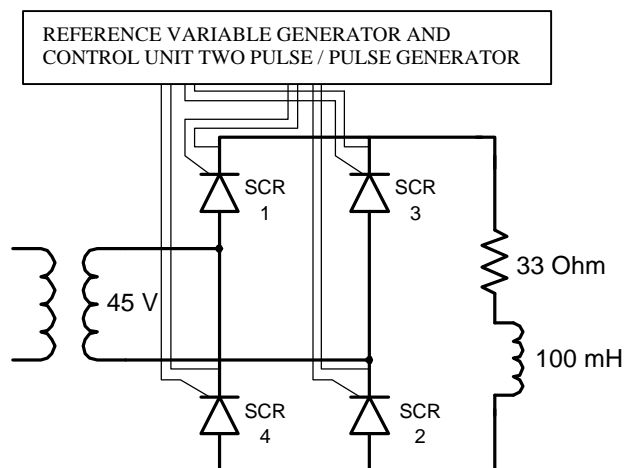

Figure 5
i) The R-load is replaced with R-L load in series as shown in Figure 5.